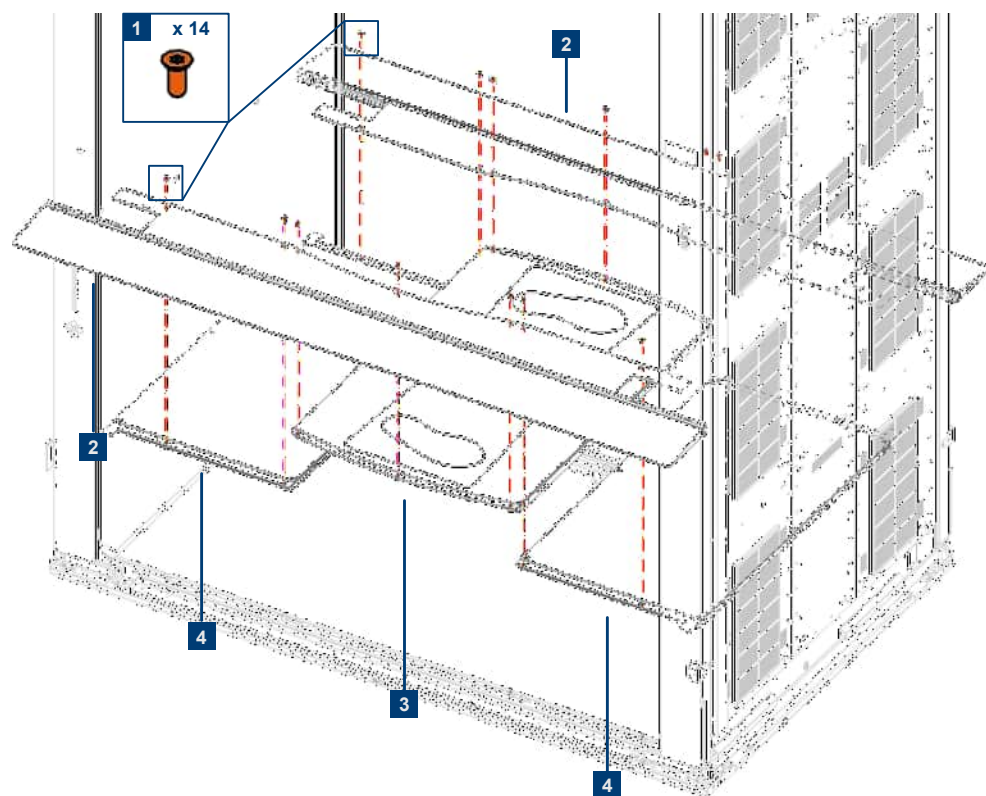

Figure 4-2: Removing the ramps
4. Unscrew the 14 screws (1) to remove the 2 ramps (2). Refer to Figure 4-2. Keep the screws for later use.
5. Remove the 3 floor plates (3 and 4). Refer to Figure 4-2.